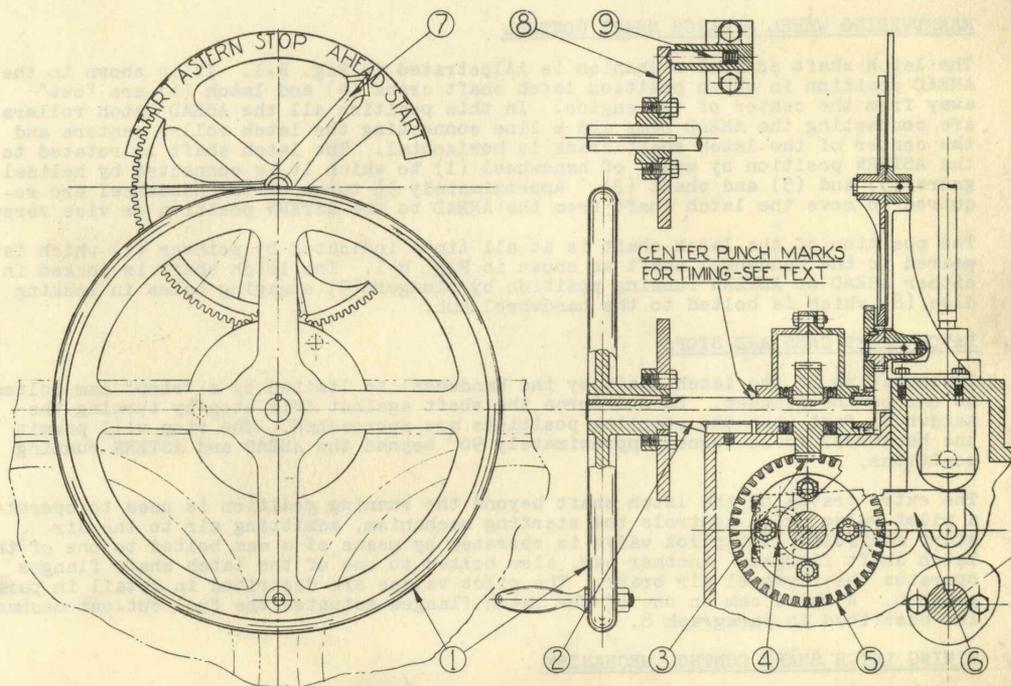

FIG. R-1
In Atlas engines the AHEAD and ASTERN cams are mounted side by side on the cam-shaft. Referring to Fig. R-1 it will be noted that latches equipped with two rollers are interposed between the cams and the valve lifter rollers. The two latch rollers are offset and lined up relative to the cams in such a manner that in the AHEAD position of the latches one set of rollers contact the AHEAD cams while at the same time the other set of rollers are free of the ASTERN cams. (Astern cam not shown in Fig. R-1) Thus in the position shown in Fig. R-1 the AHEAD cams actuate the latches which in turn actuate the valves by means of the lifters, push-rods and rockers.
The latch shaft control mechanism is illustrated in Fig. R-1. It is shown in the AHEAD position in which position latch shaft crank (4) and latch (6) are "out" away from the center of the engine. In this position all the AHEAD latch rollers are contacting the AHEAD cams and a line connecting the latch roller centers and the center of the latch shaft crank is horizontal. The latch shaft is rotated to the ASTERN position by means of handwheel (1) to which it is connected by helical gears (3) and (5) and shaft (2). Approximately 3½ turns of the handwheel are required to move the latch shaft from the AHEAD to the ASTERN position or vice versa.
The position of the latch shaft is at all times indicated by pointer (7) which is geared to the handwheel shaft as shown in Fig. R-1. The latch shaft is locked in either AHEAD or ASTERN running position by plunger (9) engaging holes in locking disc (8) which is bolted to the handwheel hub.
pointer is mounted on one of the latch shaft bearings for this purpose, and the shaft should be spotted so that the line scribed on the corresponding shaft flange exactly registers with this pointer. Then, with the handwheel in the AHEAD position, as indicated by the register of center punch marks on the handwheel shaft and the end of the bearing housing (See Fig. R-1) mesh helical gears (4) & (5). NOTE: Before dismantling the handwheel assembly observe whether or not these parts have been marked. If not, mark them as indicated, with the latch shaft in the AHEAD running position. The handwheel and gear assembly may then be bolted in place and the indicator assembled, meshing the gears with the pointer midway between AHEAD and START.